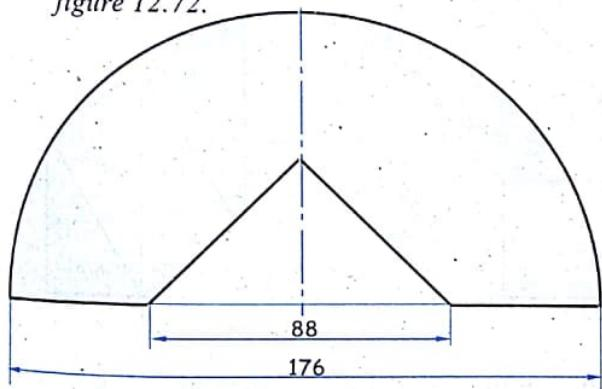

FIG. 12.72
18. The paper with shown cut-out is to be wrapped around a cylinder. Plot the outer edge of the paper in F.V. of cylinder. [circumference = 176, height = 88] Refer figure 12.72.